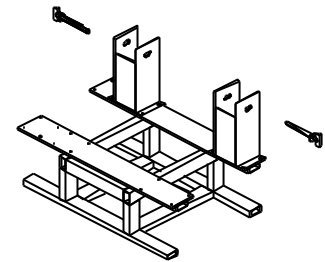
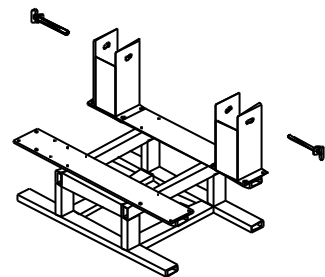

Figure 4
Figure 5
1. Each pivot tower is stamped with an F which indicates the front on the base of the tower. Position pivot of 4 bolt holes on main stand. The pivot should be positioned with F - front facing the opposite end of the stand. Proceed to bolt the pivot tower into position. If you require a 889 mm (35") beam centre follow instructions as above bolting the tower to the inner set of holes (see Figure 4). If you require 1041.5 mm (41") beam centres use the outer holes (see Figure 5).